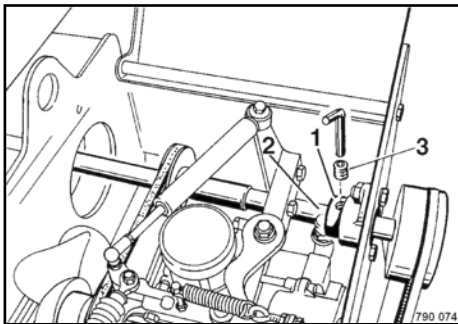

Fig. 60
Push clamping ring (1) ↪ Fig. 60 onto the bearing and fasten it with the grub screw (3).